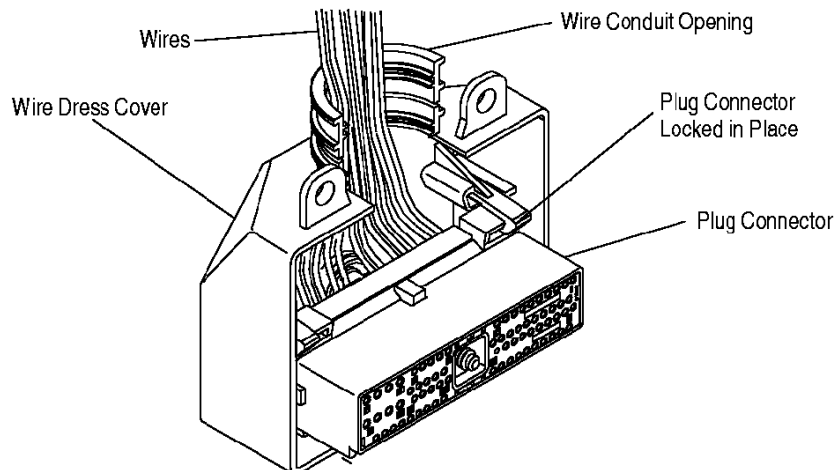

Figure 4
4. Assemble the wire dress cover and dress wires as shown in Figure 4.